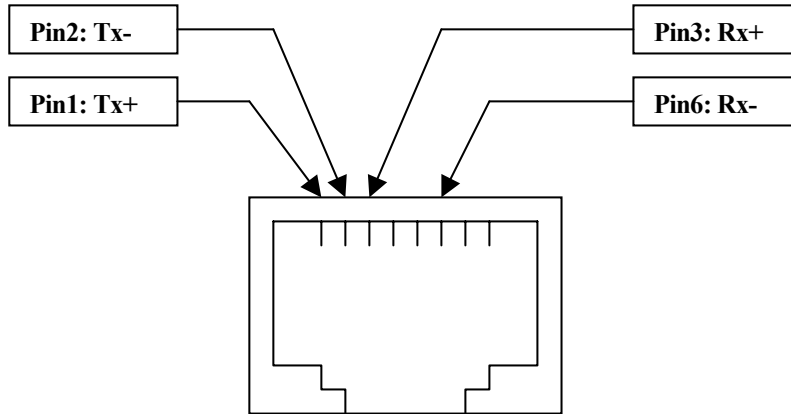

Figure 2: RJ45 connector– front view
- Still on the right side it is available the Ethernet RJ45 plug (see **Figure 2**).